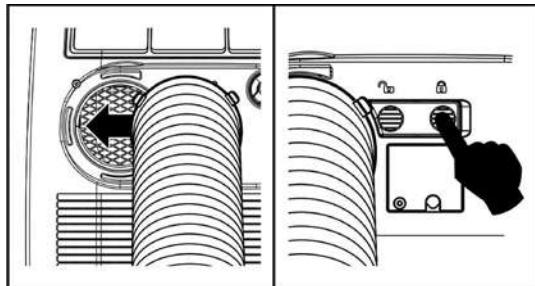
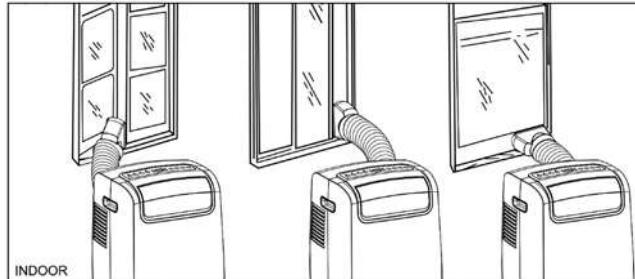

Fig. 3 & 4
Fig. 5
- 2/ Slide the other exhausted connector (#13) to the air outlet (#9) on the rear of the unit and push the rocker switch to fix the assembly firmly. (Fig 3 &4) Extend hose (#13) to desired length and position the exhausted nozzle (#15) through an open window as shown on fig.5.